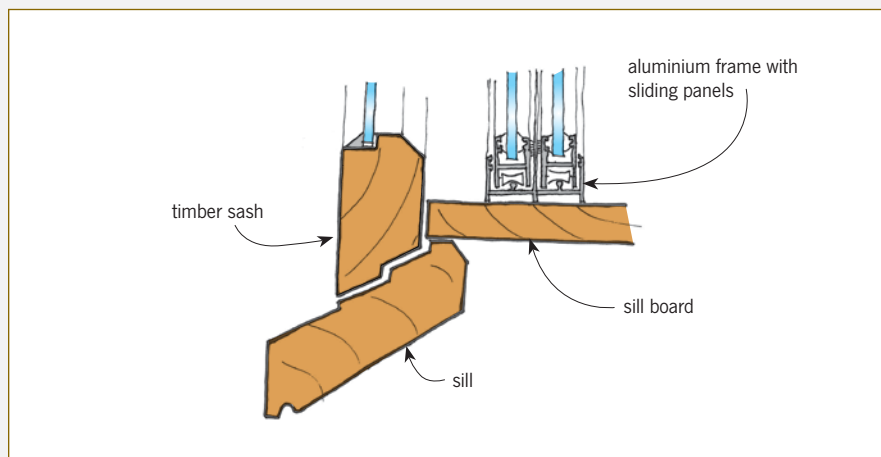

Figure 2. Framed secondary glazing
- framed glazing, where a separate aluminium frame is installed in the opening on the inside of the existing glazing (see Figure 2).